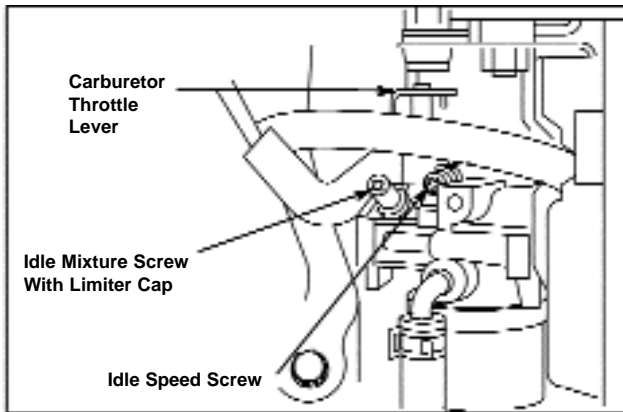

Figure 39 - Adjusting Idle Mixture and Speed
5. While maintaining engine RPM, slowly rotate idle mixture screw clockwise until engine begins to slow. See Figure 39.